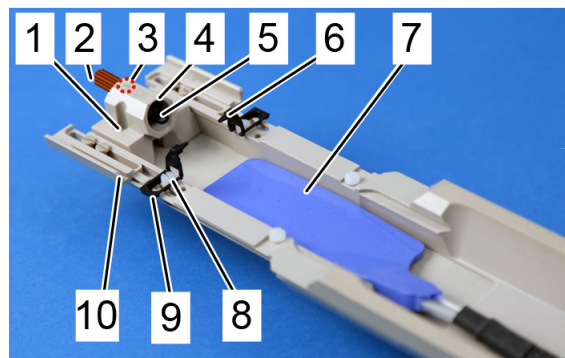
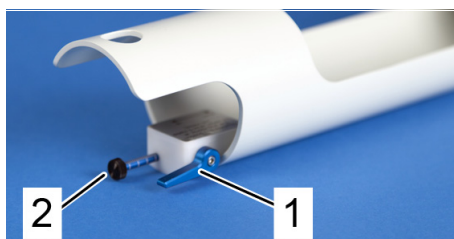
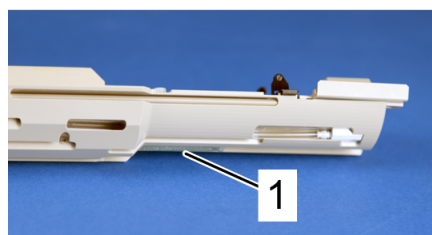
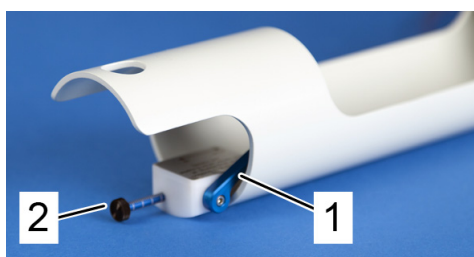

Figure 4.1: Animal support area.
Figure 4.5: Blue lever (1) fixed in 'down' position.
Figure 4.6: The lifting arm (1) counter-suck in the Animal Bed.
Figure 4.7: Blue lever (1) in 'up' position.
A passive gas anesthesia including supply and aspiration is provided within the respiration mask. The respiration mask (Figure 4.1 (4)) is connected to the two silicon tubes (supply: Figure 4.3 (1), aspiration: Figure 4.3 (2)). While in the reverse setup, the respiration mask reverse (Figure 4.2 (1)) is connected via the two silicon tubes (supply: Figure 4.2 (4), aspiration: Figure 4.2 (5)).
- **Respiration mask (Figure 4.1) / Respiration mask reverse (Figure 4.2):**
The respiration masks can be shifted within a certain range. To reposition the respiration masks (Figure 4.1 (4) & Figure 4.2 (1)) loosen the white fixation screw (Figure 4.1 (1)) or the headless screw (Figure 4.2 (6)), respectively.
To use the reverse setup, it is recommended to remove the respiration mask (Figure 4.1 (4)). Place the respiration mask reverse (Figure 4.2 (1)) and connect the two silicon tubes for supply (Figure 4.2 (4)) and aspiration (Figure 4.2 (5)).
To adjust the position of the tooth bar (Figure 4.1 (5)) apply the red extension screw (Figure 4.1 (2)) and loosen the slotted headless screw (Figure 4.1 (3)). After positioning the tooth bar fix the slotted headless screw and remove the extension screw. This procedure applies also for the respiration mask reverse, the red extension screw (Figure 4.2 (3)) can be applied and the slotted headless screw (Figure 4.2 (2)) can be loosened to shift the mask.
Figure 4.1 (8) shows the stereotactic fixation device which is realized by ear plugs fitting into the ear canals for the top end setup, while Figure 4.2 (7) shows it for the reverse setup.
The position of the ear plug within the ear canal can be adjusted by moving the complete ear plug holder (Figure 4.1 (9)) and the ear plugs (Figure 4.1 (6)) independently. To move the complete ear plug holder loosen the white screw (Figure 4.1 (8)). The ear plugs do have a thread and can be moved by using the provided non-magnetic screw driver.
To adjust the position of the object to be imaged in relation to the centre of the Coilhead the mechanical stop (Figure 4.1 (10)) can be moved. To do so, turn the screw (Figure 4.5 (2)) at the end of the Animal Bed. The correct position can be checked by using the Mouse Position Gauge ("Mouse Position Gauge" on page 14).
- Remove the extension screw (Figure 4.1 (2)) whenever the bed is used in the Mouse Position Gauge or the MRI system.
The lifting mechanism is controlled by the blue lever (Figure 4.5 (1)) at the end of the Animal Bed. When the blue lever is positioned in the 'down' position the lifting arm (Figure 4.6 ((1)) is counter-sunk within the Animal Bed (Figure 4.6). Moving the blue lever into the 'up' position (Figure 4.7 (1)) lifts the front end of the Animal Bed by pushing